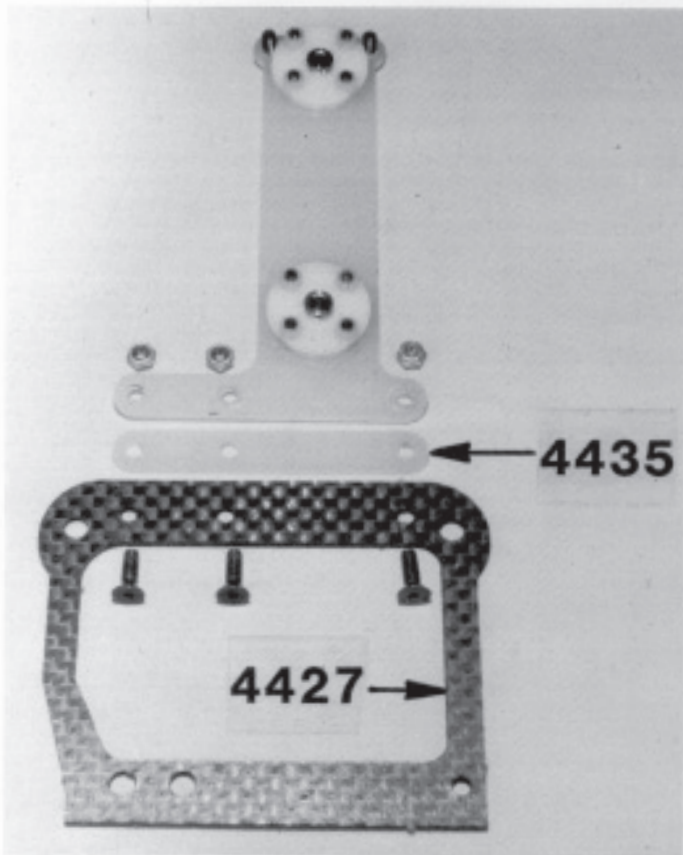
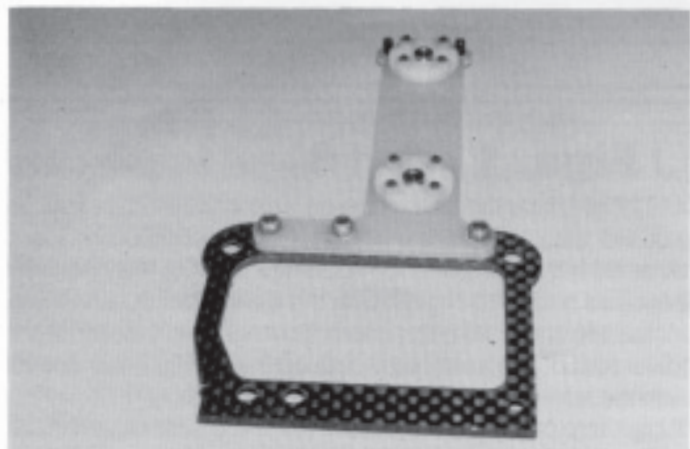

Fig. 17
Fig. 18
□ Figs. 17 & 18 In bag #4 you will find the #4427 graphite lower rear brace and #4435 T-bar spacer. You will also find three #6292 4-40 x 3/8" FHSScrews and three #4449 small aluminum locknuts. Layout the lower rear brace as shown in Fig. 17 with the countersunk side down. Install the three #6292 screws through the bottom of the lower rear brace as shown. Line up the #4435 T-bar spacer with the screws and install over the screws and on top of the T-bar. Now slide the T-bar down over the screws and install and tighten the three #4449 small aluminum locknuts onto the screws. Your completed assembly will look like Fig. 18.